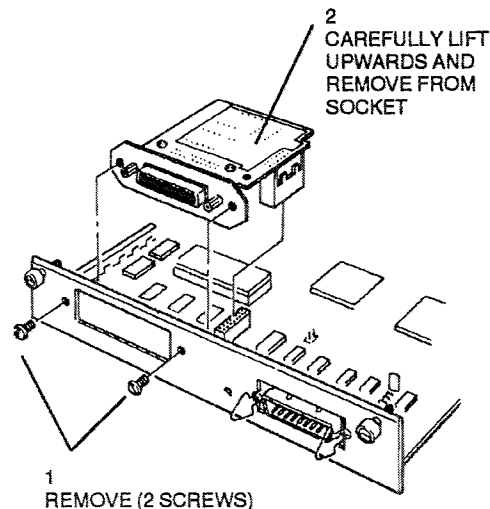

Figure 1. Serial communication PWBA removal
2. (Figure 1) Remove the serial communications PWBA.